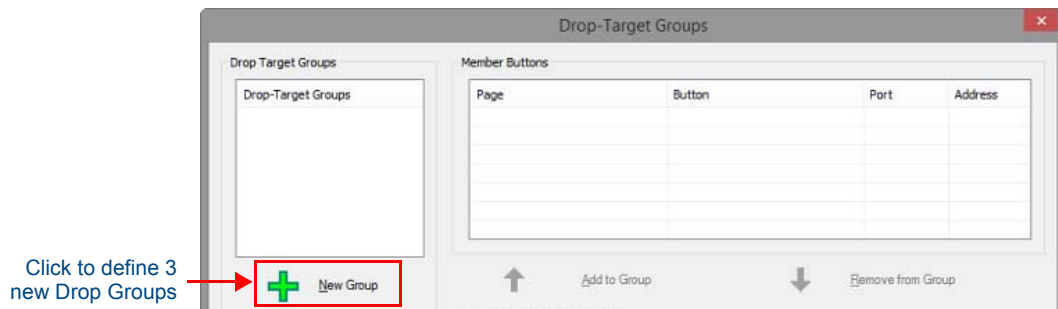

FIG. 48 Drop-Target Groups dialog
1. Select **Panel > Edit Drop-Target Groups** to open the *Drop-Target Groups* dialog (FIG. 48):